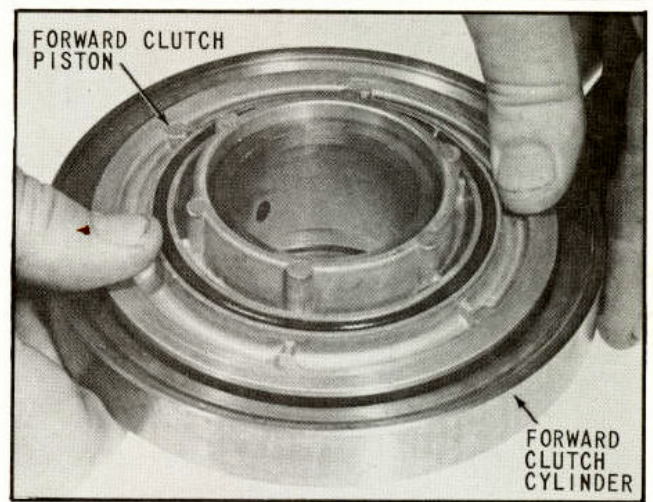

Fig. 36 Installing Forward Clutch Piston
27. After aligning the assembled forward clutch piston squarely on the assembled forward clutch cylinder, press the clutch piston into the forward clutch cylinder, as shown in (Fig. 36). This is a hand assembly and should not require pounding by hammer or pressing on arbor press. Assembly is complete when piston "bottoms" in forward clutch cylinder.